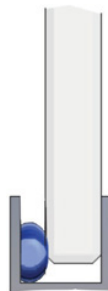
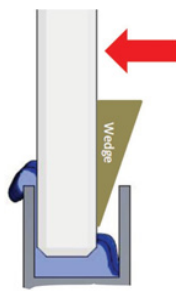

FIG.7
FIG.8
- Slide glass panel into position (FIG 7) and use small wedges (FIG 8) or a flat plastering blade to slide glass panel back to inside edge of channel and against silicone.
- Repeat steps 7 and 8 with panel 2. (FIG 7)